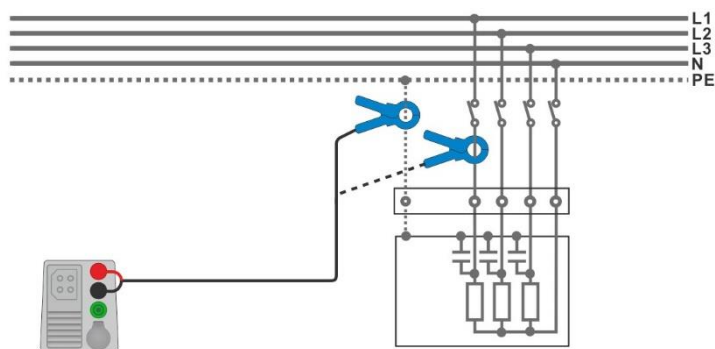

Figure 7.106: PE leakage and load current measurements
- › Connect the clamp to the object under test, see **Figure 7.106**.